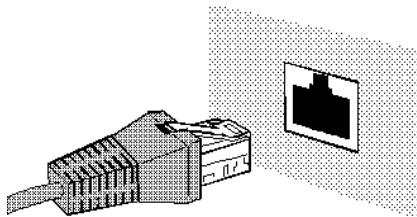

Figure 11.
4. Align the wand or laser's connector with the connector on the module. The wand or laser's connector has a tab that must line up with the slot in the module's connector (see Figure 11 on p. 93).